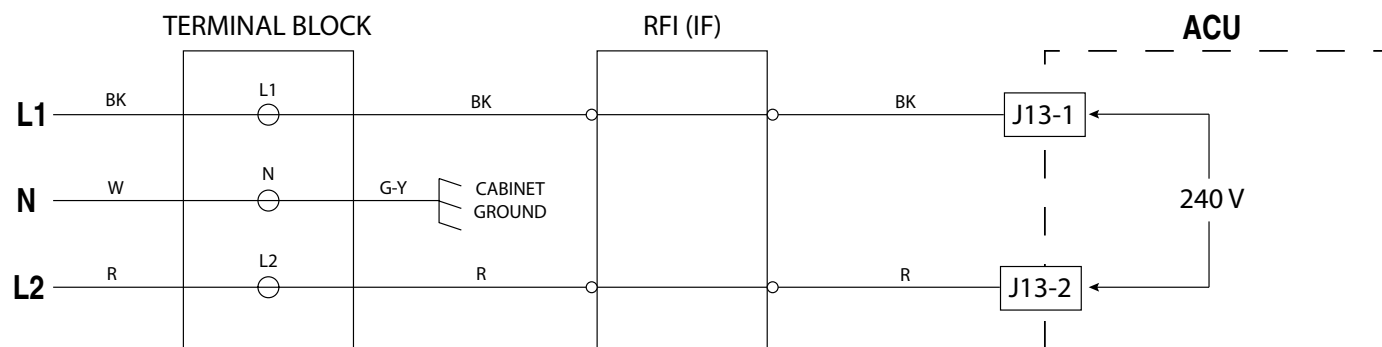

Figure 3 - Supply Connections Strip Circuit
APPLIANCE CONTROL UNIT (ACU) PINOUTS - FIGURE 3
6. Check for continuity between the L1 (black) terminal of the plug and J13-1 on the ACU. See figure 3.
7. Check for continuity between the L2 (red) terminal of the plug and J13-2 on the ACU. See figure 3